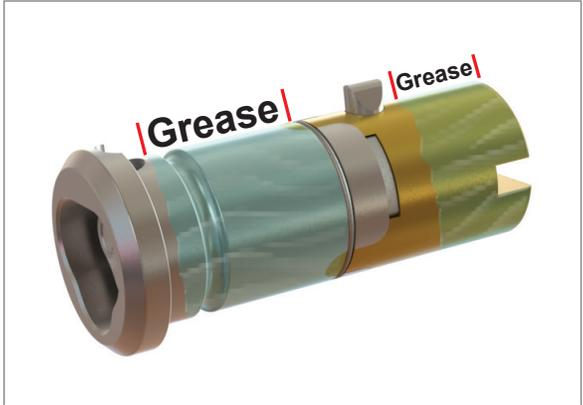

Figure 5: Apply Grease to Core Assy.
6. Apply a thin film of CRC 3120 marine grease (**fully coating the surface, but thin enough to see through**) from just behind the ball bearing hole to the snap ring groove, as shown in Figure 5. Do not apply grease to the ball bearing hole. All areas of the grease layer around the electronics module should be translucent.
7. Apply grease in the same manner from the rear end of the core assembly to within 1/8" from the lock pin hole. See Figure 5.